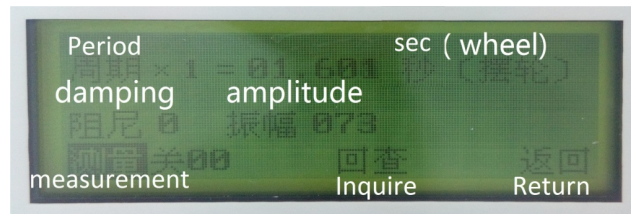

Figure 5: Snapshot for the measurement of the “Free Oscillation” mode.
3. Select the “Free Oscillation mode” and you can see the screen as shown in Figure 5. Then highlight the “measurement” and press “up” button to turn on the recorder.